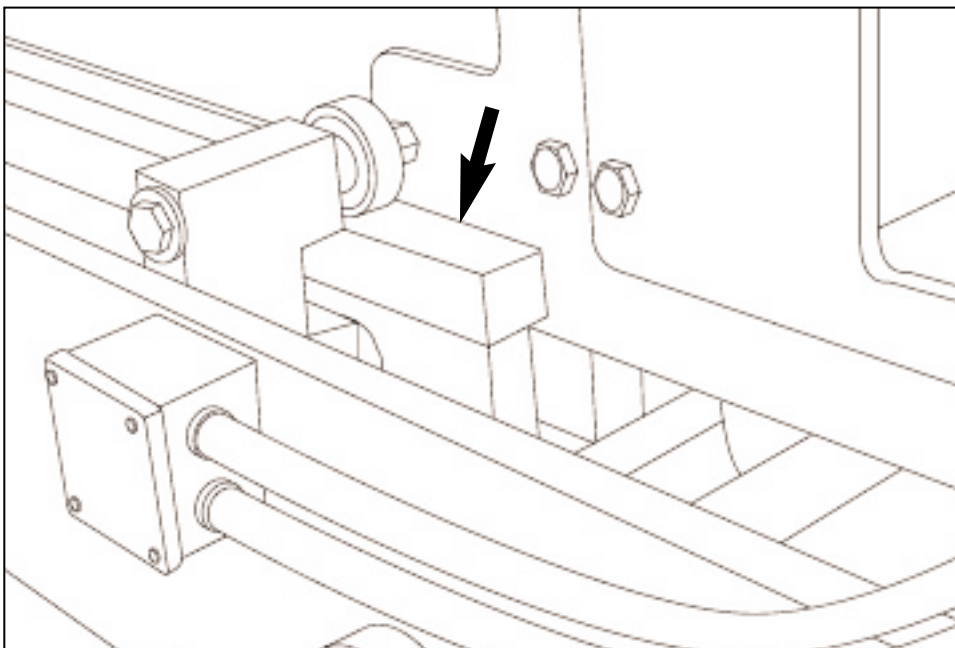

Figure 6.8 EXTREME FORWARD POSITION OF BLOCK MOVING BARS.
6.2.2 With power off, rotate block delivery drive sheave by hand (picture 6.7) counterclockwise, until block delivery bars are full forward (see figure 6.8), both link pins and gear box shaft are in line.